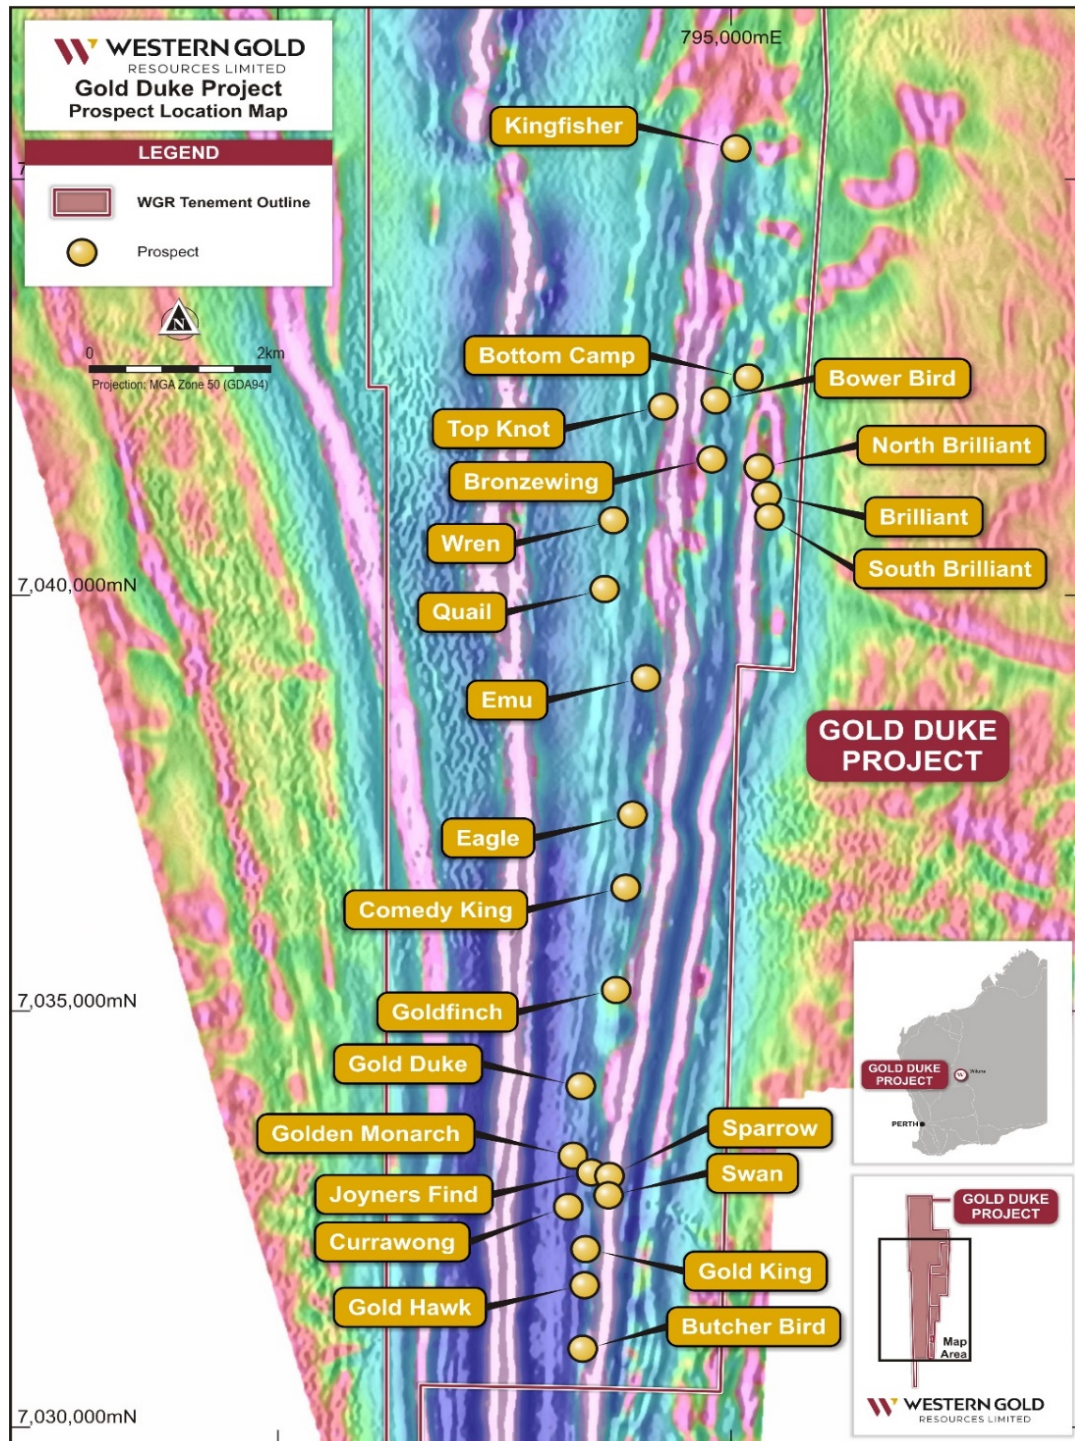
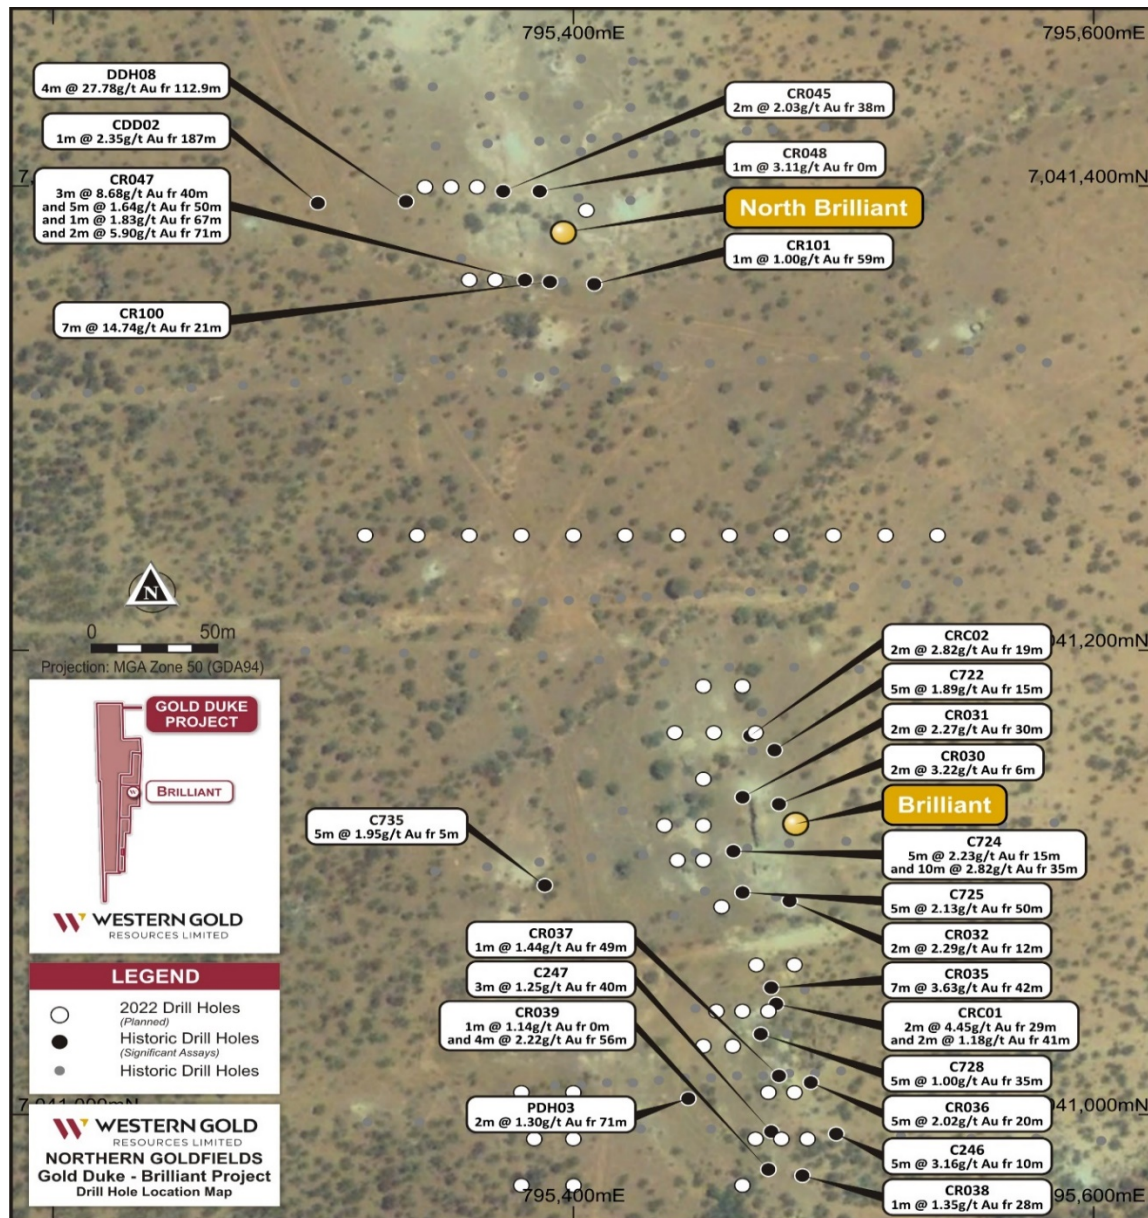

Figure 1 – The Gold Duke project on TMI (1VD) and Gold Deposit Locations
Figure 4 – Brilliant drilling program displaying planned holes and significant historic drill hole results
Drilling is due to recommence at the Gold Duke Project, 45km southeast of Wiluna in the northern goldfields (WA). Drilling will target mineralisation at Eagle (M53/1017 and M53/1018) and Joyners Find (M53/0971 and M53/0972) hosted within the Joyners Shear Zone (Figure 1).
A drilling program of 47 RC holes for 3456m (Figure 4) will be focused on targeting steeply southerly-plunging gold shoots below underground workings at Brilliant and North Brilliant (Figure 1). Previous significant intercepts include: